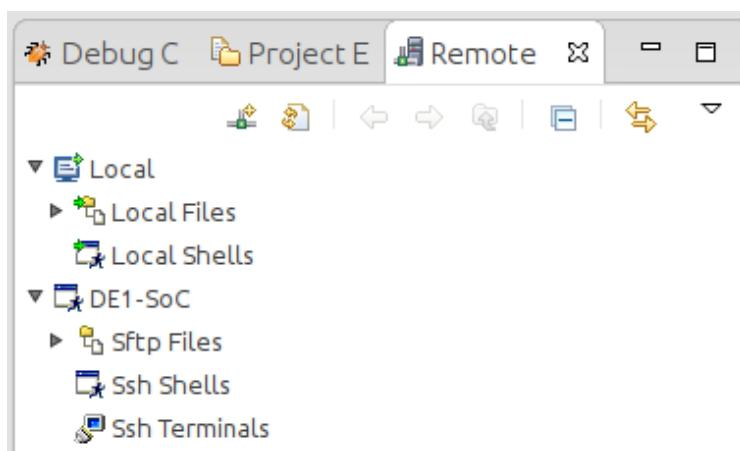

Figure 13-13. New SSH Connection In "Remote Systems" View
79. You should be able to see the remote system in ARM DS-5's "Remote Systems" view, as shown in Figure 13-13.